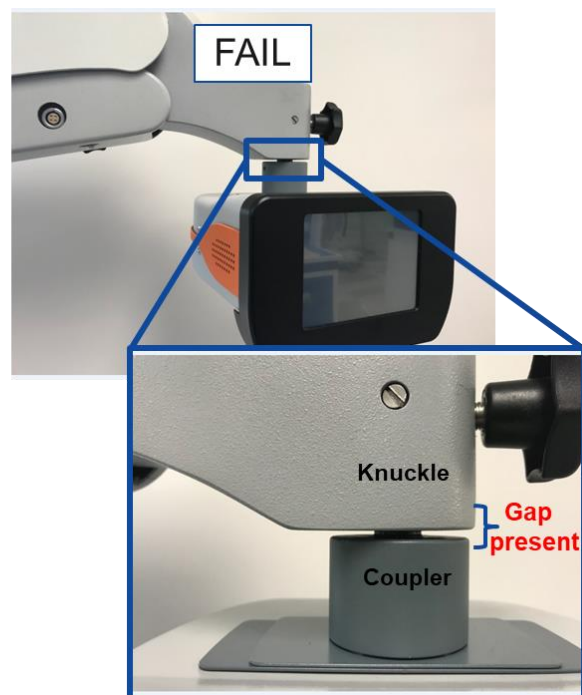

Figure 3: Fail Image
- FAIL: The gap observed between the coupler and knuckle is greater than or equal to the thickness of a credit card (approximately 1/32nd of an inch or 0.76mm) as shown in the “Fail” image in Figure 3. If your device fails this test, stop using the device immediately and notify Alcon at Nordic, QA (Gen) <qa.nordic@alcon.com>.